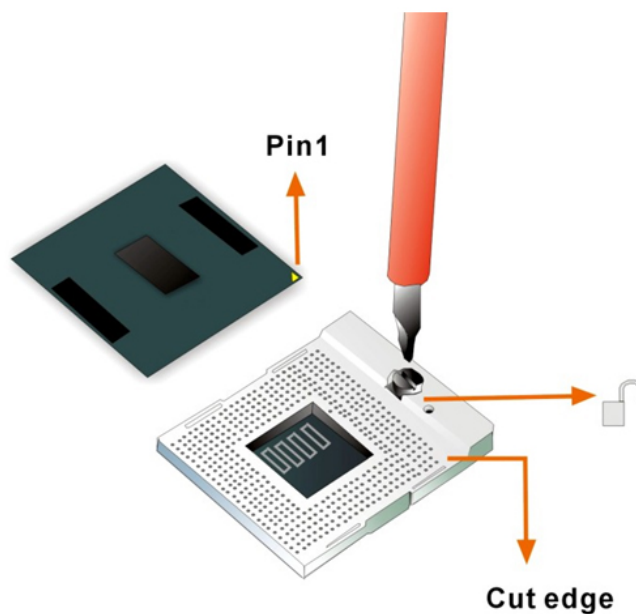

Figure 4-1: Unlock CPU socket retention screw
Step 1: Unlock the CPU retention screw. When shipped, the retention screw of the CPU socket should be in the unlocked position. If it is not in the unlocked position, use a screwdriver to unlock the screw. See **Figure 4-1**.
Step 4: Correctly position the CPU. Match the Pin 1 mark with the cut edge on the CPU socket. See **Figure 4-1**.